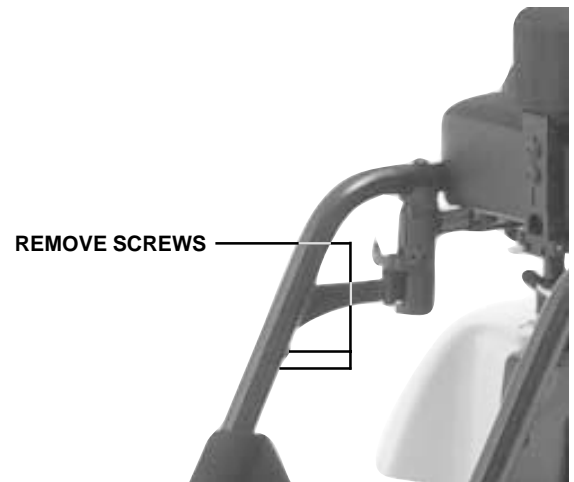

Figure 12. Leg Rest Length Adjustment
1. Use a 3/16-in. hex key to remove the two screws on the back of the leg rest. See figure 12.